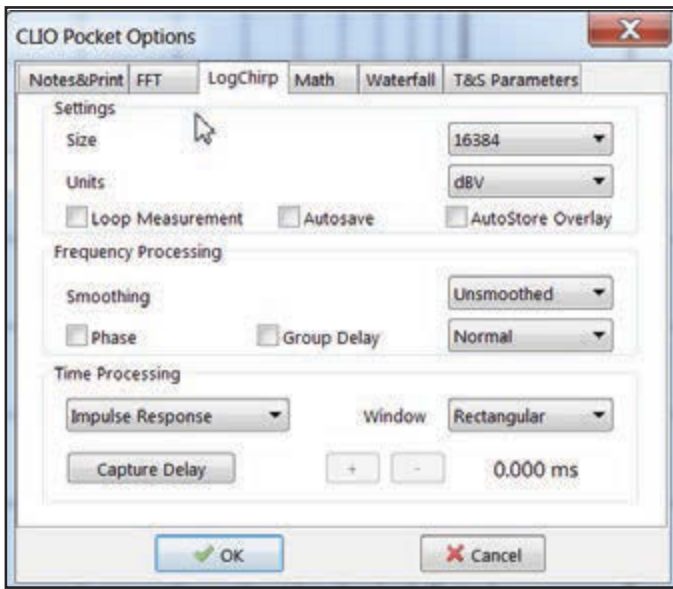
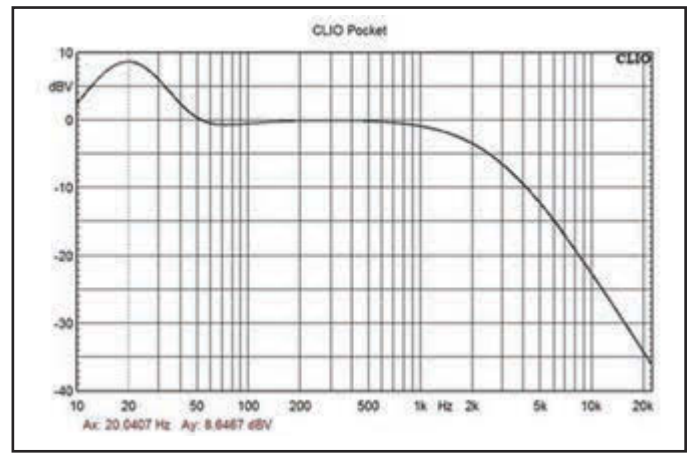

Figure 12: Log Chirp parameters for subwoofer equalizer test
Figure 13: Equalizer frequency response
**Figure 12** shows the Log Chirp test parameters. Notice the response will be measured in decibels of voltage (dBV). **Figure 13** shows the resulting equalizer response. You can see the equalizer produces a 8.65-dB boost at 20 Hz. High-frequency equalizer response is deliberately rolled off.